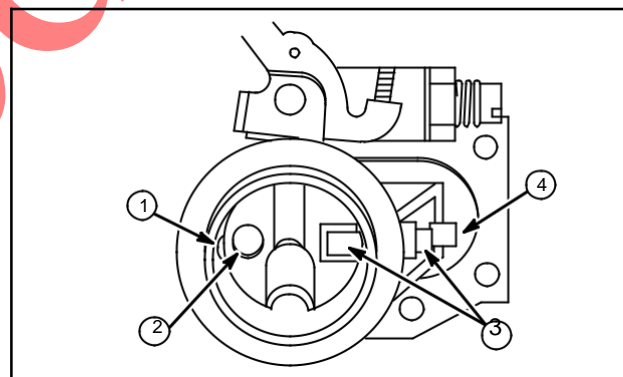

Fig. 37
Assemble Automatic Choke (Fig. 37)
1. Place choke plate in throat of carburetor placing short shaft (1) in hole (2) next to breather inlet.
2. Insert choke shaft (3) into choke shaft bore with automatic choke link hole (4) positioned as shown in Fig. 37.